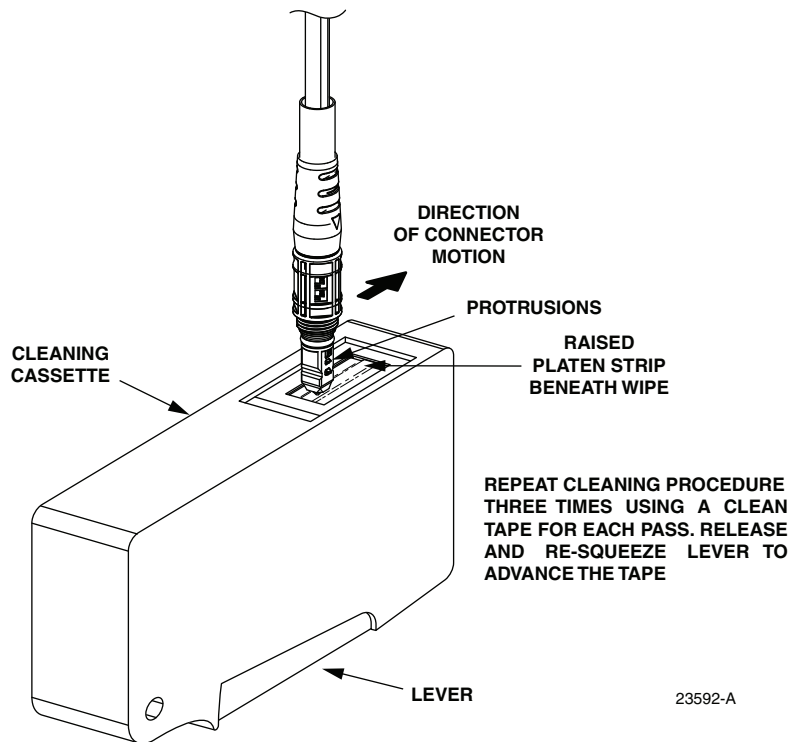

Figure 9. Angled Connector End-Face Detail
5. Hold the end-face of the drop cable connector perpendicular to the cleaning tape and with the high side of the connector pointing in the direction of cleaning as shown in Figure 9.